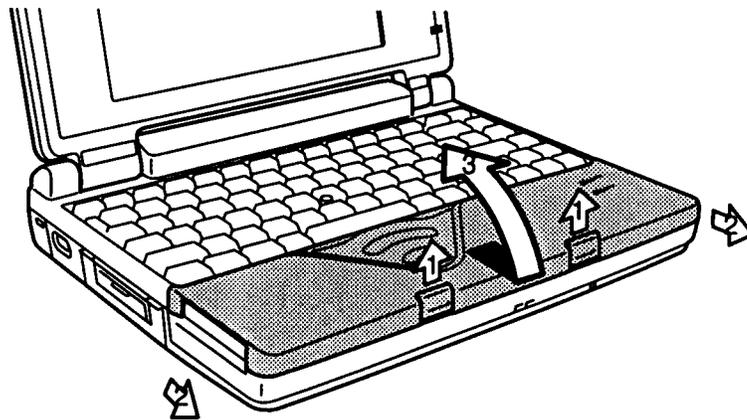

Figure 4-2 Unlatching the palm rest
3. Close the palm rest and gently push it into position (Figure 4-2).
4. Push the latches back into place, pressing gently until you feel them click (Figure 4-2).